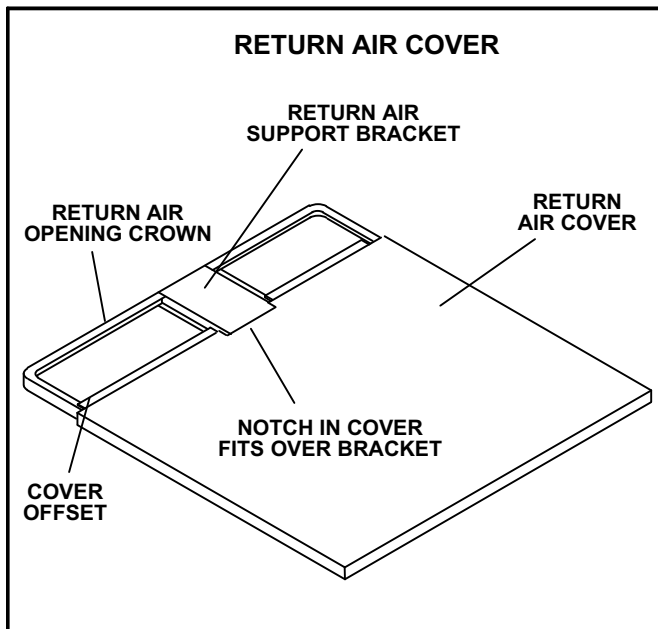

FIGURE 6
- 5- Position the return air panel over the return air opening with the offset edge toward the unit. Fit the offset edge under the return air opening crown. See figure 6.